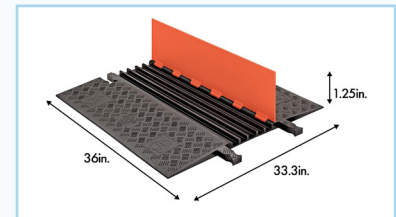

Figure 3
- All cables, cords, or wires must all be run at ground level and completely covered with approved ADA accessible cable ramps (1:12 slope) (see Figure 3). Taping down or stringing **overhead wires are NOT permitted**.